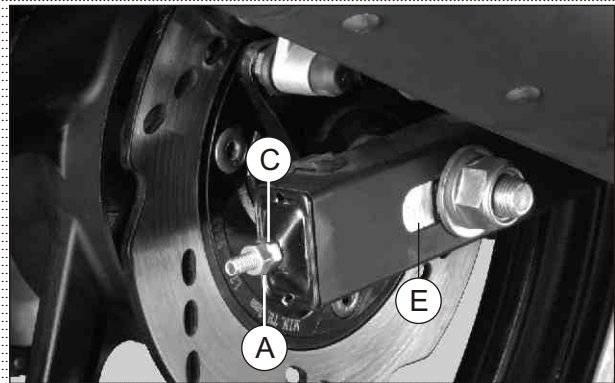
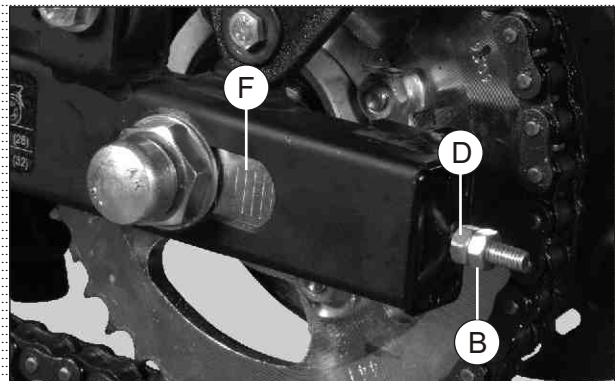

Fig. 2.96
Fig. 2.97
- Loosen lock nut (A and B) and turn the nut chain adjuster (C and D) looking at the line mark on chain adjuster L and R (E and F). Threading in reduces the slackness and threading out increases the slackness. After achieving specified slackness tighten the lock nut (A and B). (Fig. 2.96 & Fig. 2.97)